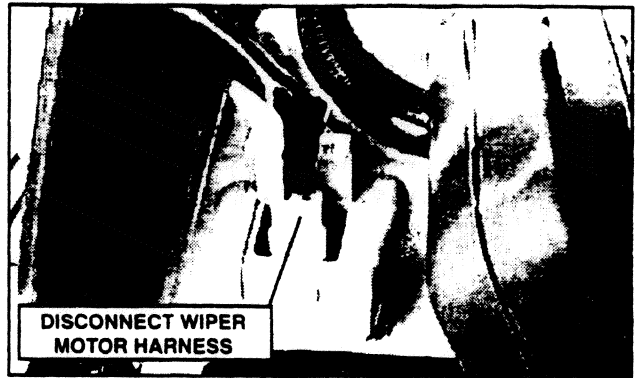

FIGURE 2.34
- a. To open windshield disconnect the wiper motor wiring harness as shown in Figure 2.34.